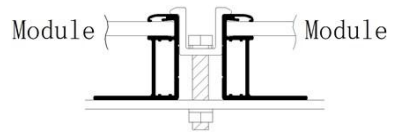

Figure 5-b Intermediate fixture
1. The installation of the long side frame of the module vertical to the support is shown in Figure 5-a, and the bearing width of the support should be more than 10mm during installation. In addition, the fixed position of the module fixture is shown in Figure 5-a1, each place is provided with one fixed point, six fixed points in total. (Recommended fixture mounting torque: 16N.m - use M8 bolts)